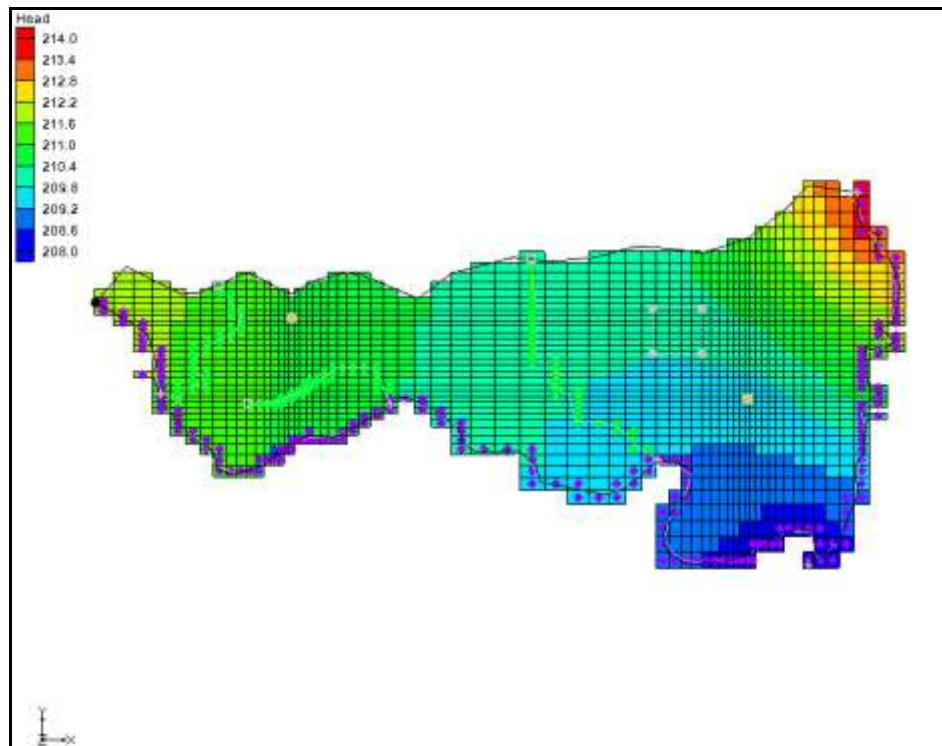

Figure 1 Initial appearance of the Graphics Window
3. Click **Open** to import the project file and close the *Open* dialog. The Graphics Window should appear as in Figure 1.
- Extends a set of pathlines from each well in the direction the particles will flow. Notice that the pathlines from the east well extend to the northeast and miss the area covered by the proposed landfill (the gray square to the northwest of the east well, see Figure 1).